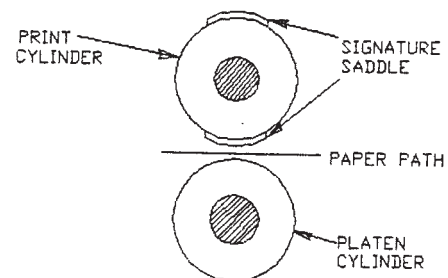

FIG 17
9. With the Print Cylinder Setscrews toward you; using the Handwheel, align the Signature Saddle with the horizontal line on the Check. (Fig. 17). Tighten Setscrews.